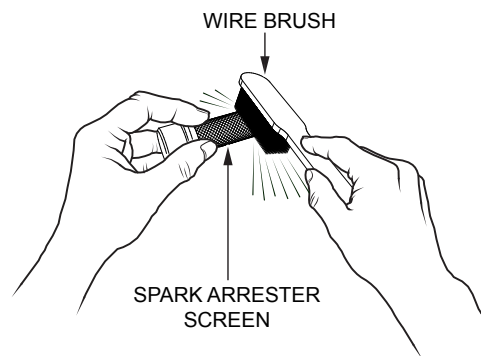

Figure 36. Cleaning The Spark Arrester
4. Carefully remove carbon deposits from the spark arrester screen (Figure 36) with a wire brush.